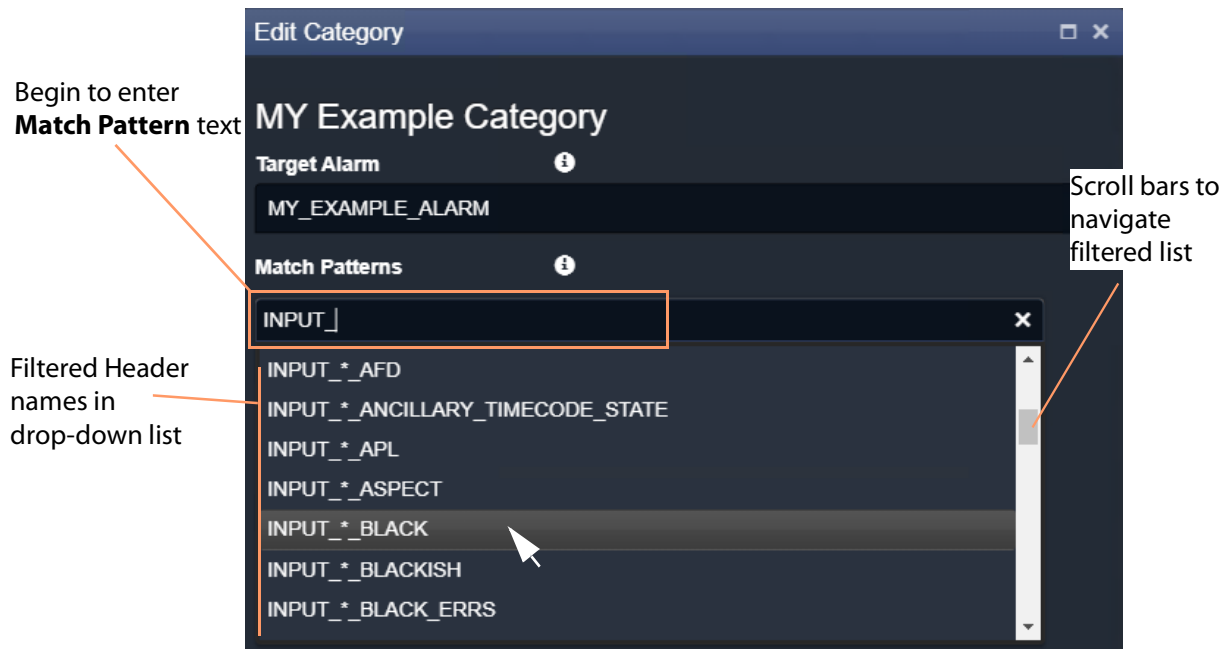

Figure 58: Select a Match Pattern From Drop-Down List
- 2 In the **Match Patterns** text box, begin entering a message Header **Match Pattern** text string. For example, "INPUT_". As the text string is entered, a drop-down list appears showing all the candidate message Header names filtered on the entered text. See Figure 58.